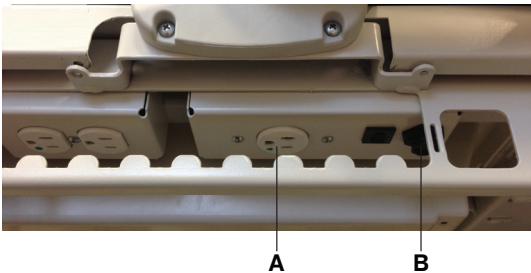

Figure 39: InTouch auxiliary mattress outlet and integration cable
**Note:** Make sure that you plug the support surface power cord into the **InTouch** auxiliary mattress outlet (A) and the integration cable to the mattress connector (B) (Figure 39).